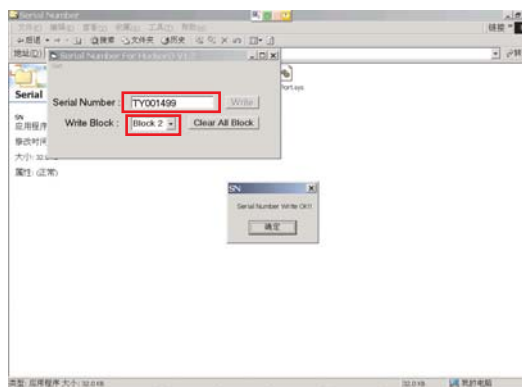

Fig.30
4. Set Block2 as shown in Fig.30
5. key in new serial number, then press " Write" button as shown in Fig.30 , Click " WRITE" button.